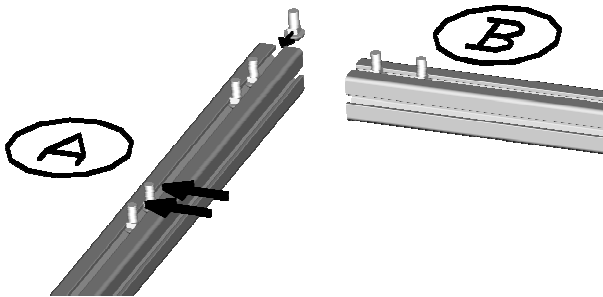

Figure 2-A
2. Insert 3 carriage bolts into the structural member "A". Insert 2 carriage bolts into structural member "B" (see Figure 2-A). Make sure to include 2 extra bolts into the channel "A" as shown (on one side only). These will be used for the attachment of cross member "C".